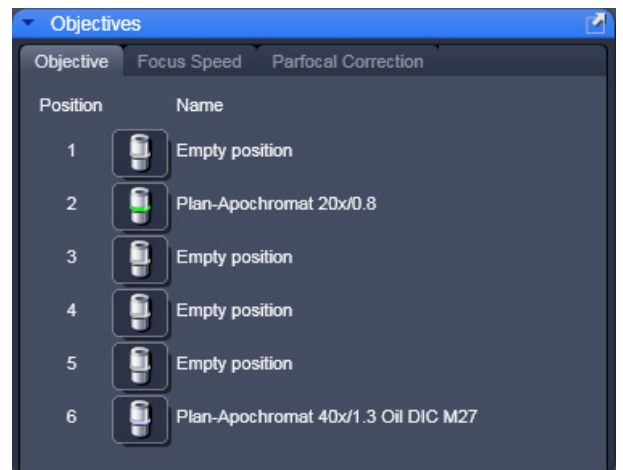

Fig. 5-121 Objectives tool
- A list of available objectives is displayed with position and name (Fig. 5-121).